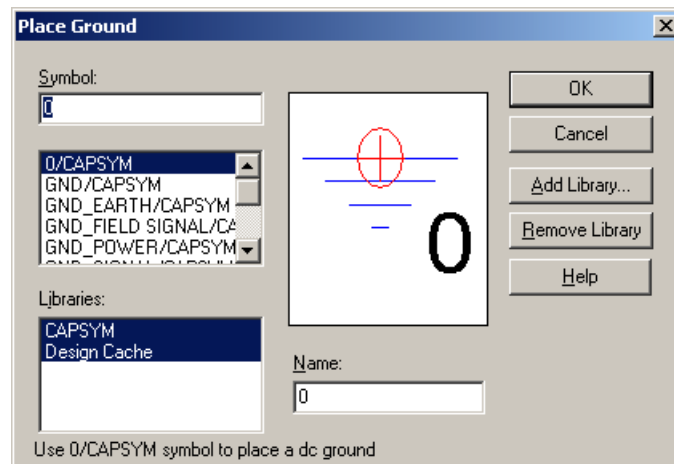

Figure 10. Dialogue box for adding a ground connection.
- Choose Place > Ground... from the menu bar or click the Place ground connection button on the toolbar, which brings up the dialogue box shown in figure 10 on the next page.